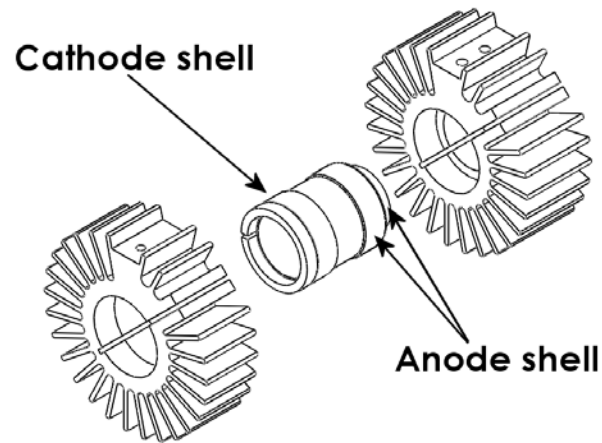
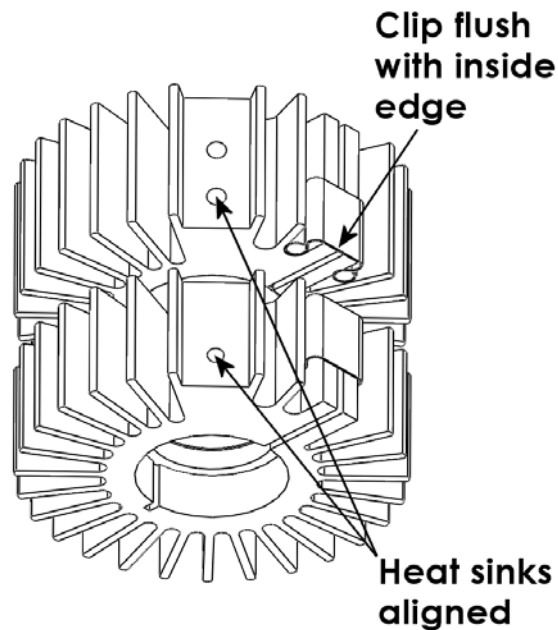

Figure 5-4. Bulb surfaces requiring they be covered with thermal compound.
Figure 5-5. Heat sink alignment and positioning of the retaining clips.
1. Without removing the protective cap from the new bulb, apply a thin, even layer of thermal compound to the side surfaces of the anode shell as shown in Figure 5-4.
shell on the surface shown in Figure 5-4. Slide on the front heat sink, align it with the rear heat sink (Figure 5-5) and press on the retaining clip positioning it flush with the inside edge of the heat sink.